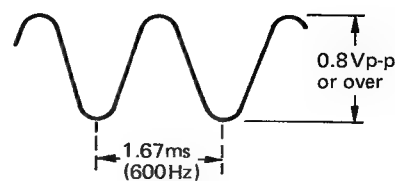

Figure 8-6.
2. Monitoring Aj pin 5 with an oscilloscope (internal trigger), check that the requirements given in Figure 8-6 are met.